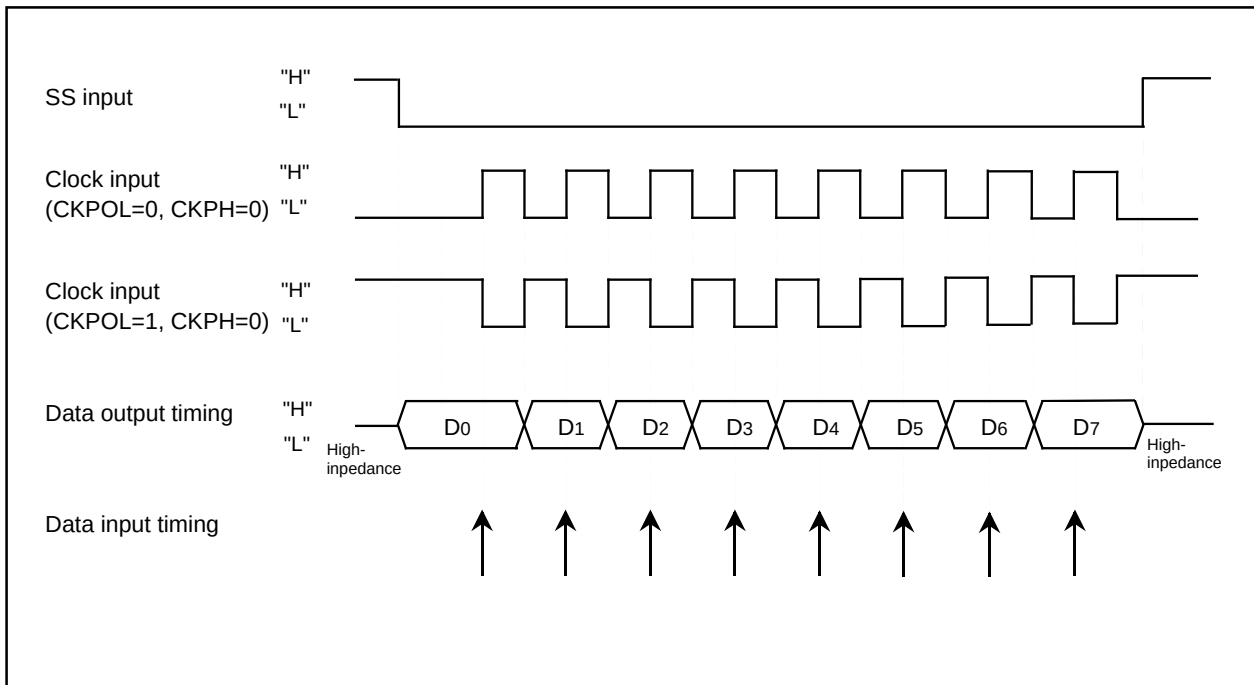

Figure 20.9 The transmission and reception timing (CKPH=1) in slave mode (external clock)
- With "1" for bit 1 (CKPH) of UARTi special mode register 3 (addresses 0325₁₆ and 02F5₁₆ [i = 3 or 4]), when an SSI input pin is H level, output data is high impedance. When an SSI input pin is L level, the first data is output. After that, serial transmission is synchronized with the clock. Figure 20.9 shows the timing.